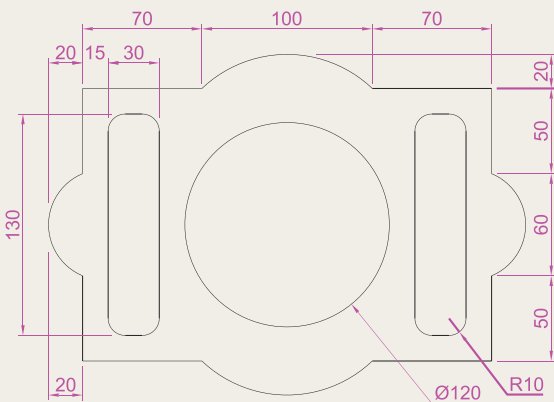

Fig. 6.29 Exercise 3
3. Construct and dimension the drawing of Fig. 6.29.